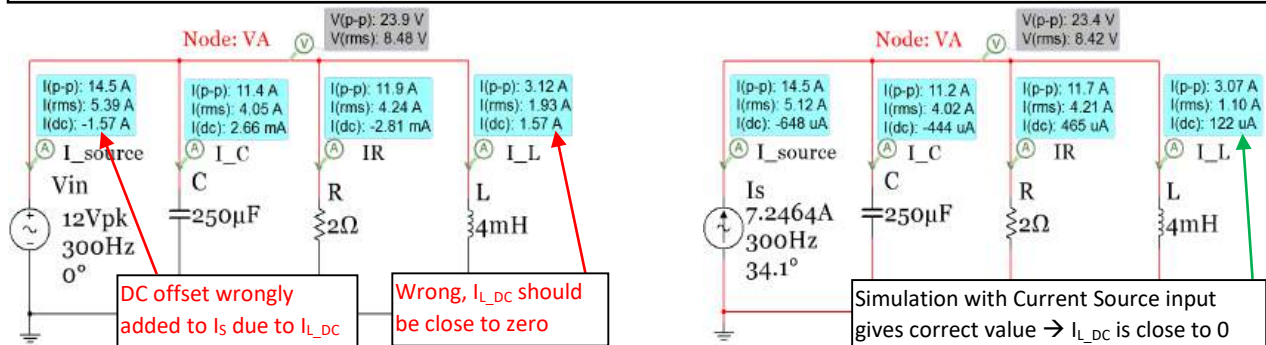
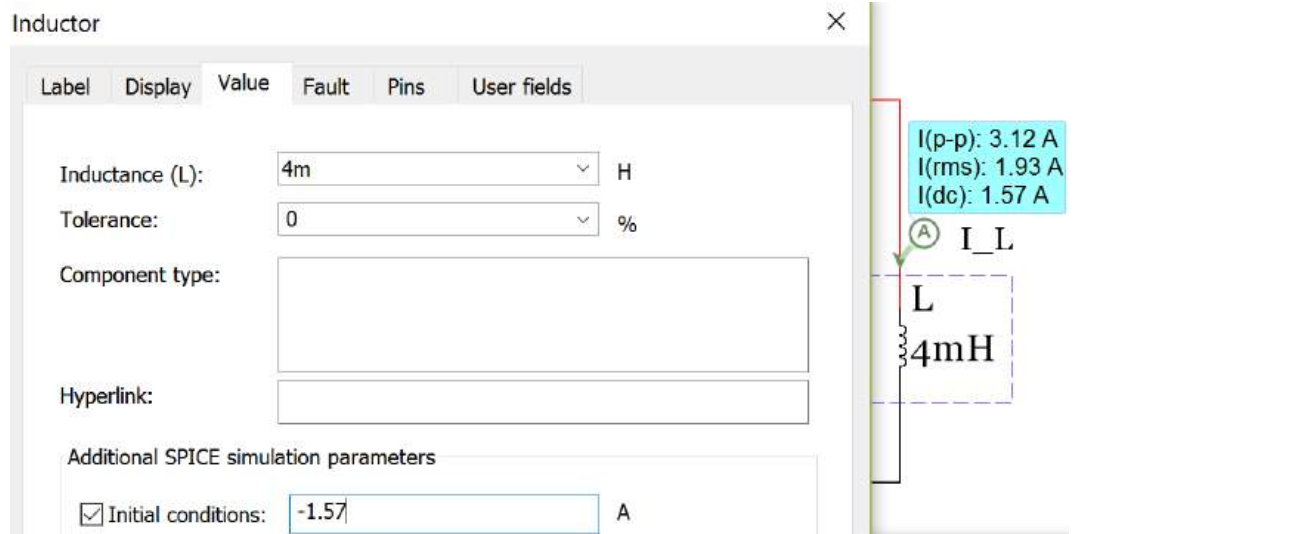
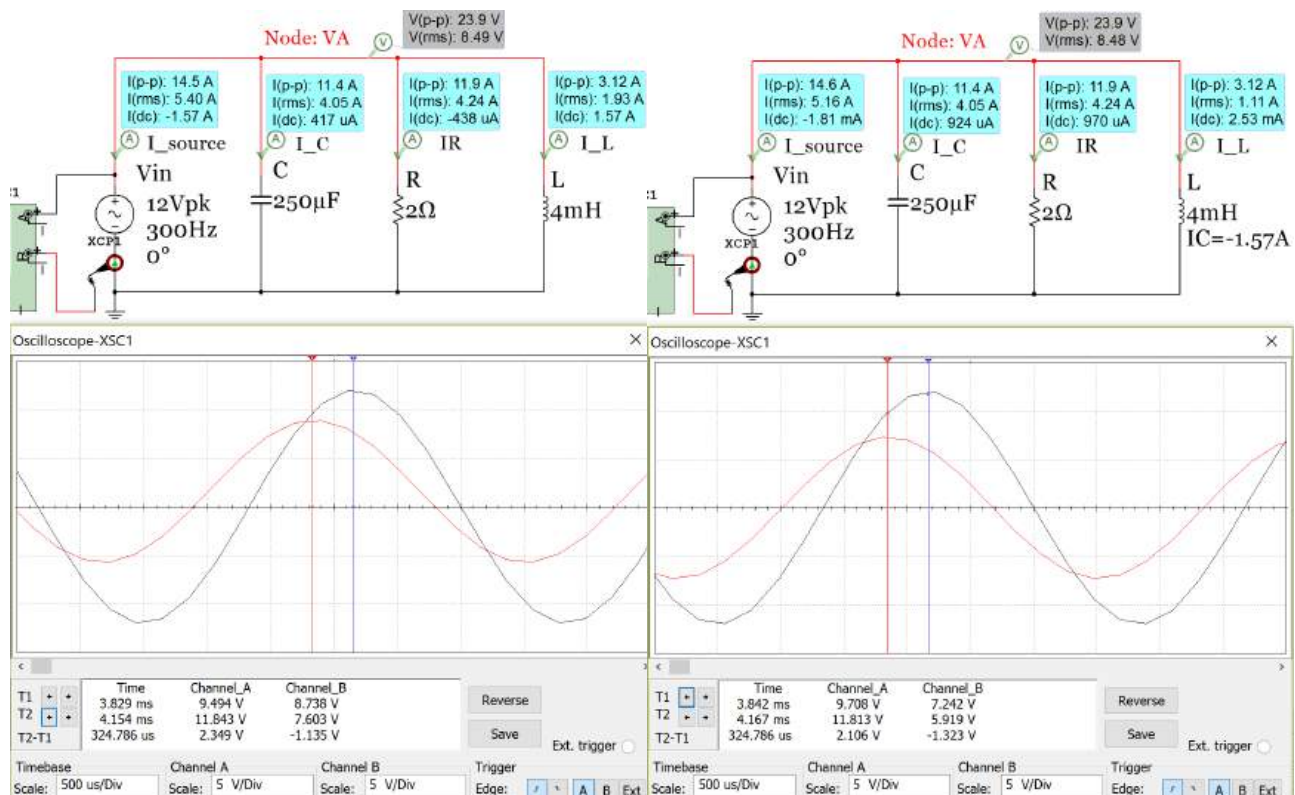

Figure 3.14: Parallel circuit in Example 3.7 with AC Voltage source (Left) and AC Current Source (Right).
Figure 3.15: Inductor dialogue box to enter the DC offset as the initial condition.
Figure 3.16: Parallel RLC circuit from Example 3.7 – Phase Verification in Multisim.
The reason the RMS I_s and I_L don't match the calculations is due to the DC offset that is wrongly included in the simulation as shown in Figure 3.14 (this link gives more info). Here are some options to avoid this error.
- Calculate I_s and use a current source instead of a voltage source. There is no DC offset in Figure 3.14.
All of the voltages and currents have been calculated above and the magnitudes were verified in Multisim. To verify the phase the oscilloscope is needed. To remove the DC offset of the inductor, method 3 described in Figure 3.14 will be used. Figure 3.15 shows the dialog that comes up when you double click on the inductor. Since the DC offset was measured to be 1.57A, a value of -1.57A is entered into the initial condition box to correct for the DC offset. Figure 3.16 (Left) shows the plot of V_{in} and I_S for the initial circuit without modifying the initial condition of the inductor. Due the DC offset the peak value of I_S is measured to be 8.738 A which is about 1.5 A higher than the calculated value of I_{S_pk} (7.2464 A). In the right plot of Figure 3.16 the initial condition of the inductor is included and the DC offset is removed from both I_L and I_S .
- Even though the ELI the ICE man mnemonic doesn't apply to parallel circuits it DOES apply once the total impedance is determined and you want to compare the source current to the input voltage. In this example I_s LEADS V_{in} (ICE) because the total impedance phase angle is in quadrant IV (-34.1°). This is verified in Figure 3.16.